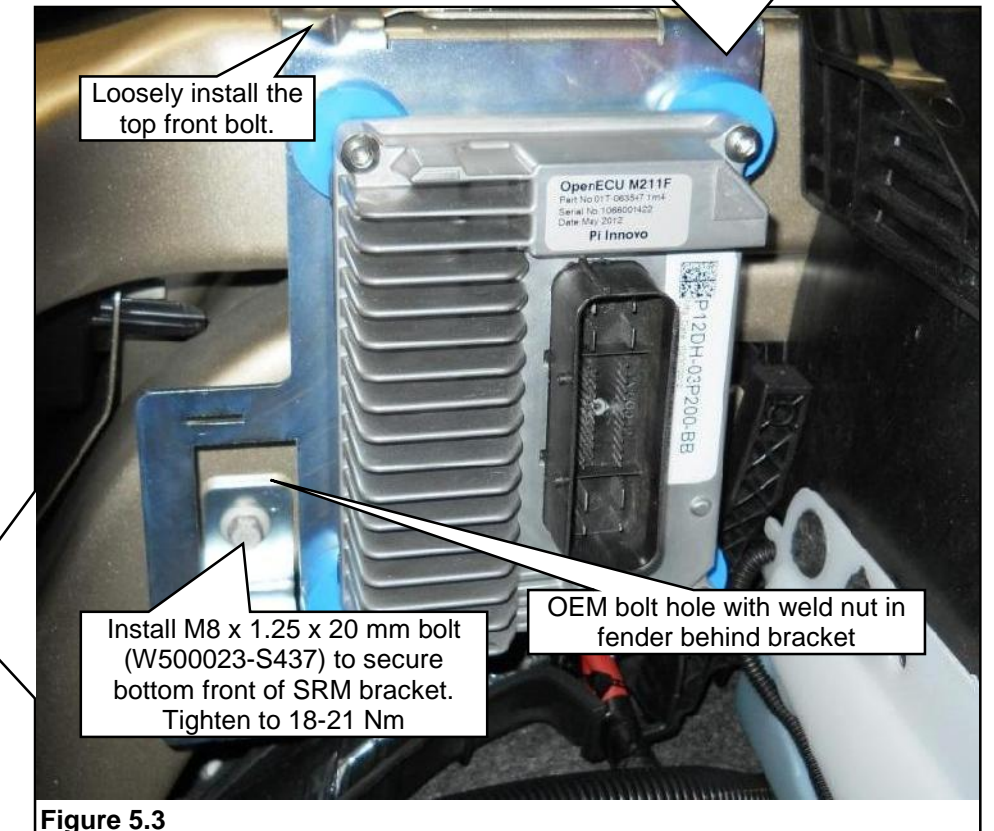

Figure 5.3
3. Position the SRM bracket on the right inner fender in front of the battery tray, on top of the fender. Install the top front fender bolt to position and stabilize the bracket. **Figure 5.3.**
4. Install one M6 bolt at the bottom front of the bracket. Tighten the bottom front bolt to specification. **Figure 5.3.**